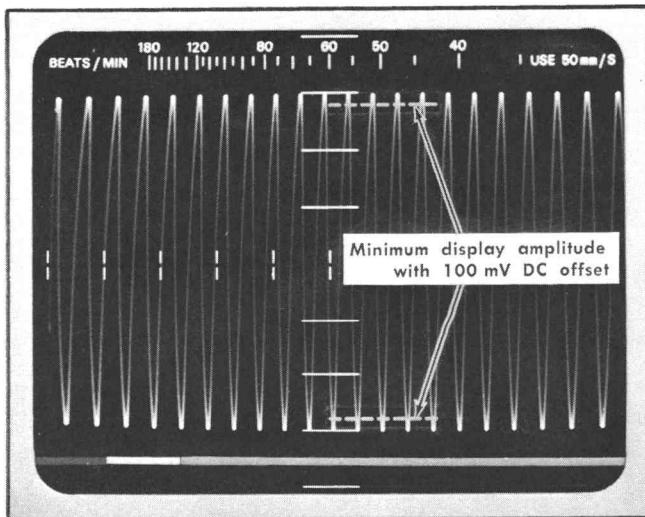

Fig. 5-3. Typical CRT display when checking gain with 100 mV DC offset.
c. Set the standard amplitude calibrator for a zero-volt output and adjust the sine-wave generator for a 6-centimeter display at 10 hertz (see Fig. 5-3).